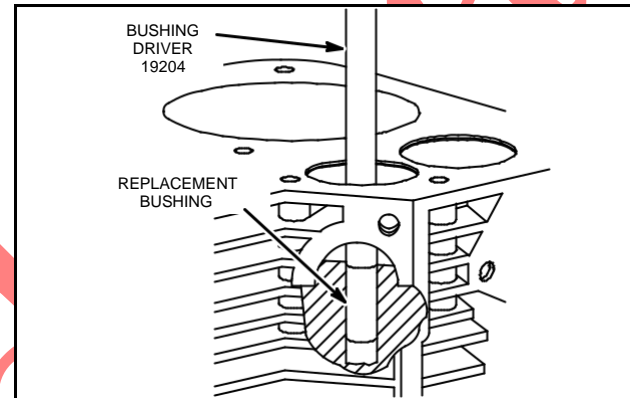

Fig. 19 – Install Bushing
- Using bushing driver, #19204, press in new bushing until it bottoms, Fig. 19.